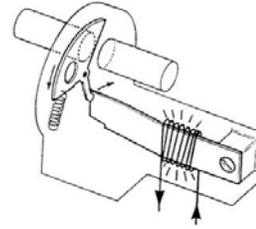

Fig.1B Extra air valve (hot)
- The disc is turned by a bi-metal (B), which responds to both ambient (coolant) temperature and to the heating wire (H) coiled around it. The coil is connected to the fuel pump electrical circuit and therefore heats the bi-metal (Fig.1B) which begins to close the valve as soon as the engine cranks and runs. Once the engine is running, the combined effect of the heater coil and engine temperature closes the EAV fully between 60 - 70°C.